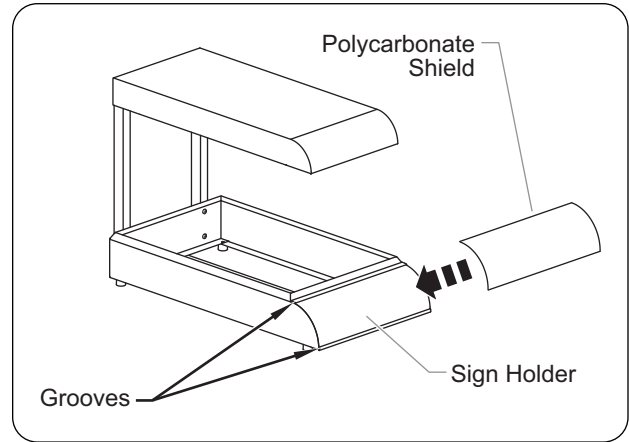

Figure 8. Installing Optional Sign Holder
2. Bend the polycarbonate shield slightly to fit the top and bottom edges of the shield into the top and bottom grooves of the sign holder (see Figure 8.).